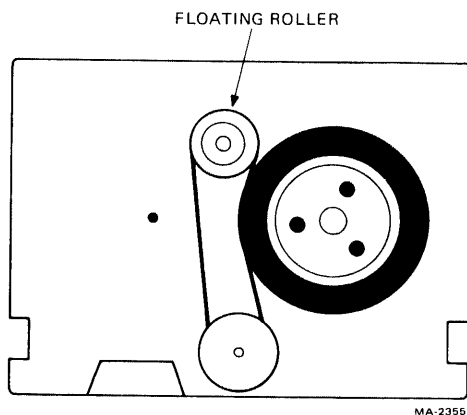

Figure 2-10 Stretch the Belt with the Floating Roller
2. Remove the floating roller (Figure 2-10).